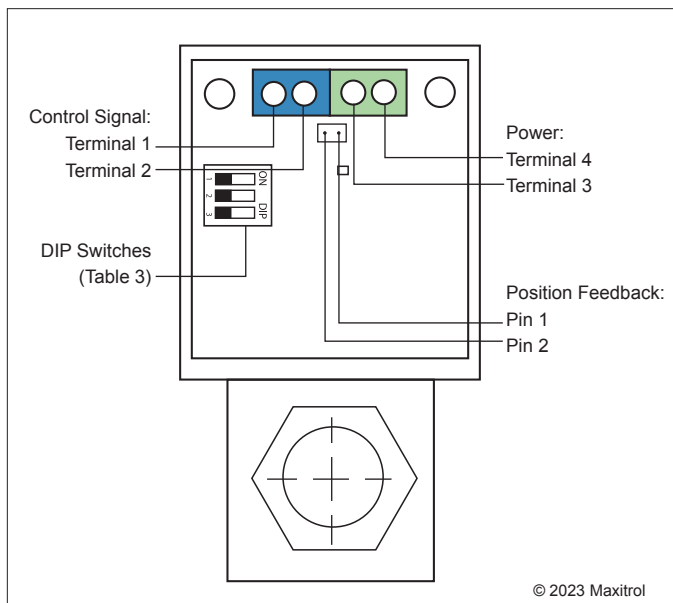

Figure 2: EXA Modulating Valve Series Connections
There are six (6) electrical connections on the EXA valve. Two (2) for power, two (2) for the control signal, and two (2) for position feedback (see Figure 2, page 2).
A three (3) position DIP switch is located on the PCB (see Figure 2). Change the signal type and offset by changing the position of DIP switches. (For DIP switch position and corresponding current/voltage ranges, see Table 3).
(see Figure 2)
- Step 1: Remove two (2) screws holding cover.
- Step 3: Connect 24V (AC/DC) power source to terminals 3 and 4. Note polarity when using a DC power source or if one leg of an AC transformer secondary is externally grounded or is sharing power with another half-wave device (see Figure 2, page 2).
- Step 5: Connect control signal to terminals 1 and 2. Observe polarity. Note that the return, or signal ground, must be connected to terminal 2 (see Figure 2, page 2).